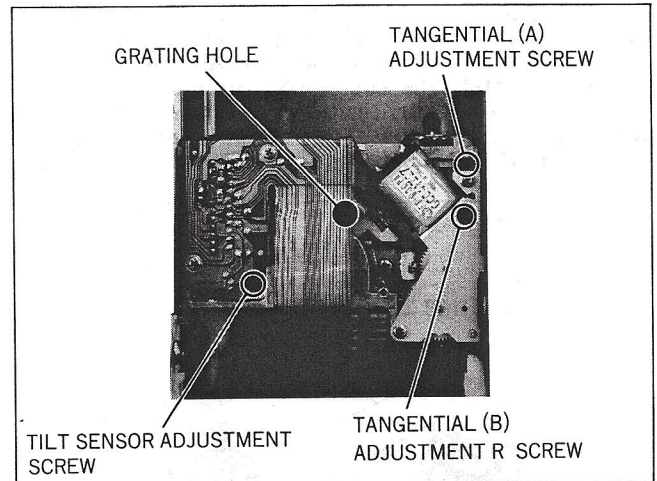

Fig. 9-2
2. Play back track 11 of CD Test Disc. Confirm that Tangential (A) Adjustment Screw (See Fig. 9-2) can be seen through adjustment hole on the Bottom Plate.
2. Play back track 11 of CD Test Disc. Then place the unit in Pause mode. Confirm that Grating Adjustment Screw (See Fig. 9-2) can be seen through the adjustment hole on the Bottom Plate.
- Place the unit in Pause mode. Confirm that Grating Adjustment Screw (See Fig. 9-2) can be seen through the adjustment hole on the Bottom Plate.